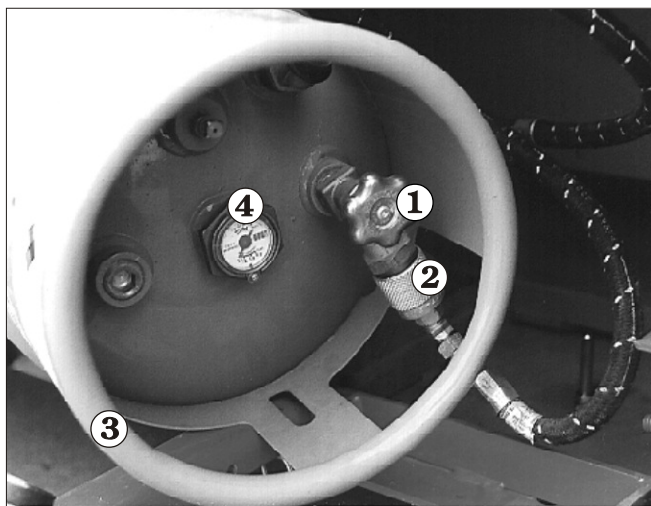

Figure 7.2 - LPG Fuel Tank Replacement
To check the fuel read the fuel meter ④, on top (see Figure 7.2).
To replace an LPG tank: Close the valve ① (see Figure 7.2). Manually disconnect the fuel hose at the knurled ring ②. Manually lift the tank ③ out.